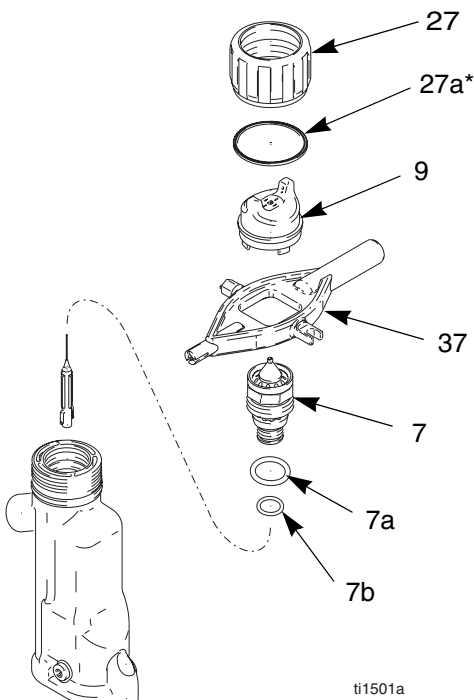

Fig. 24. Air Cap/Nozzle Replacement
2. Remove the retaining ring (27) and air cap (9). See FIG. 24..
3. Point gun up and squeeze trigger while removing the fluid nozzle (7) assembly with the multi-tool (37).